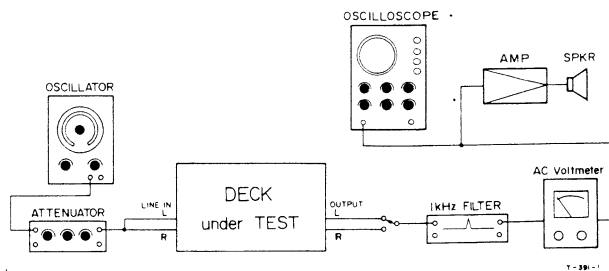

Fig. 6-19 Connection
1. Connect the deck and the test equipment as shown in Fig. 6-19.